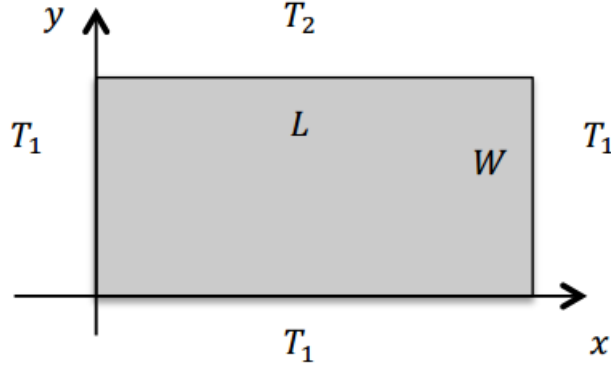

Figure 3.1: Model of Example 3.2.1
**Example 3.2.1** *Refer to 3-2-1Two dimensional steady state not heat generation.nb.* A two-dimensional rectangular plate length and width is  $L = 2, W = 1$ , and on one boundary temperature  $T_2 = 150\text{ K}$ , other three boundaries  $T_1 = 50\text{ K}$ . The square is in steady state, sketch the temperature distribution and temperature at position  $x = 1$  and  $y = 0.5$ , Calculate the heat flux when  $y = 0$ . (As shown in figure 3.1)